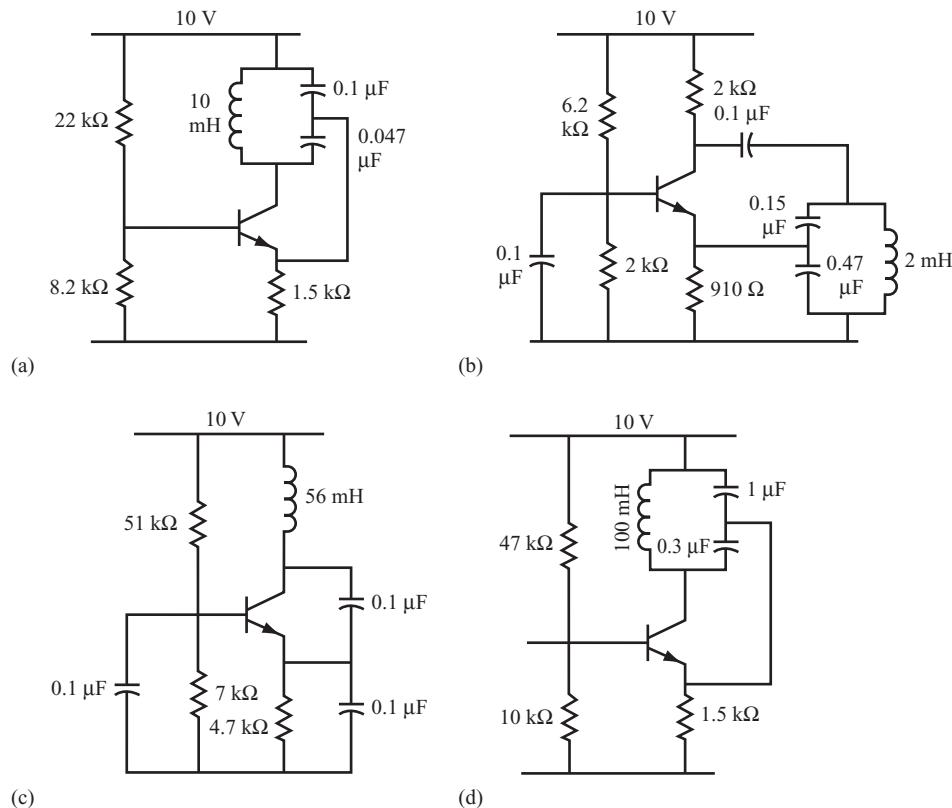

FIGURE 9.39
- 35** Figure 9.39 shows several other oscillator circuits. Calculate the expected output frequency for each circuit and build as many as you want. Check the measured oscillator output frequency against the calculated values for each circuit you build.